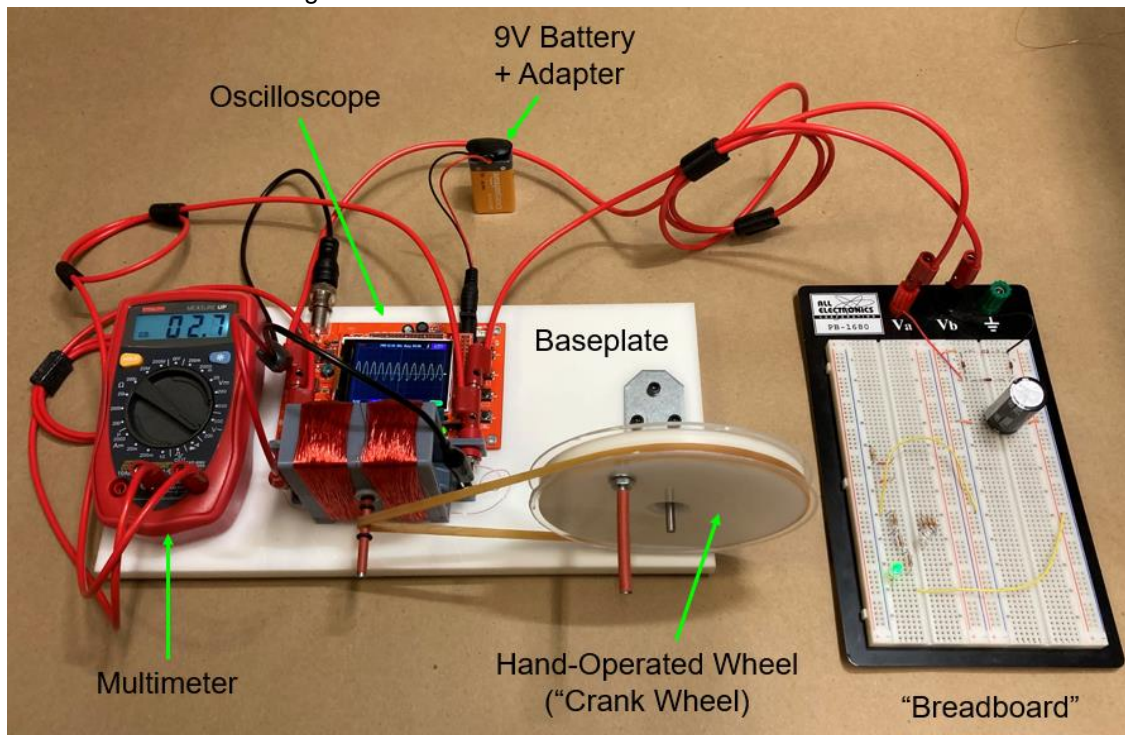

Figure 1. Full system assembly.
1. The main portion of the module includes a plexiglass baseplate, a hand-operated wheel assembly, a 3D-printed magnet container, a magnet-bearing steel shaft, a voltmeter, an oscilloscope, and an electrical circuit board known as a “breadboard”. The system overview is demonstrated below in Figure 1.